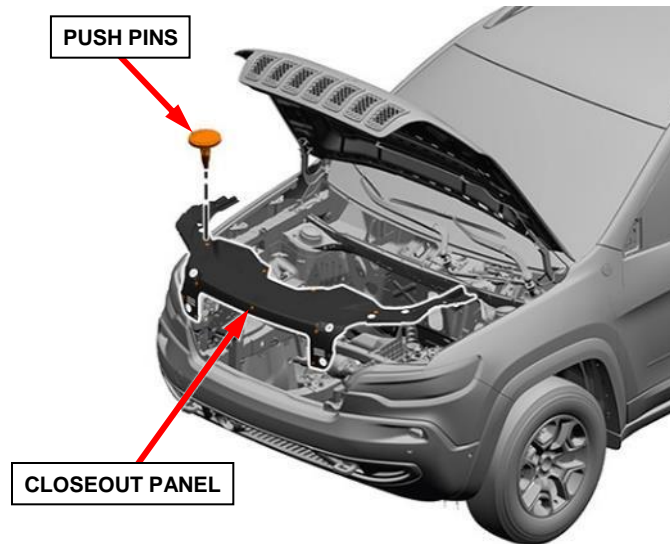

Figure 16 – Radiator Closeout Panel
20. Remove the push pin fasteners then remove the radiator closeout panel (Figure 16).